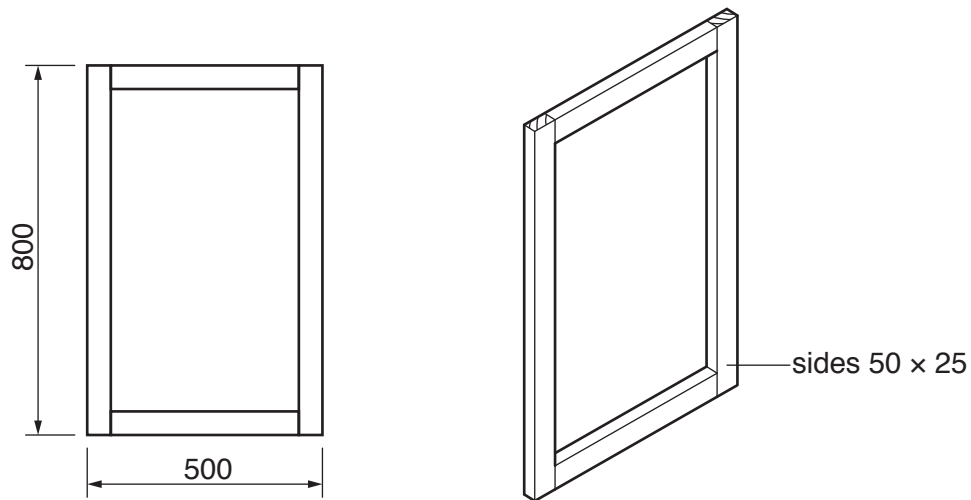

Fig. 5
- 5 Fig. 5 shows views of a basic frame construction in wood.
Add sketches and notes to Fig. 5 to show **two** ways of strengthening the frame construction. [4]